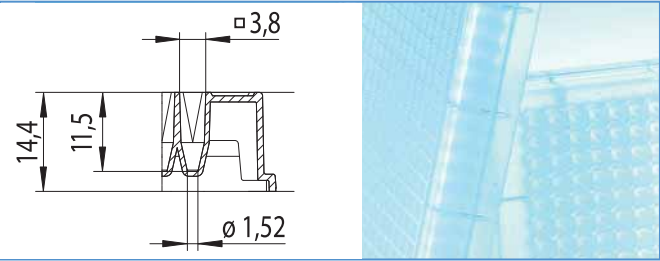

Figure 1:
- Large working volume from 1 µl to 90 µl (Fig. 1)